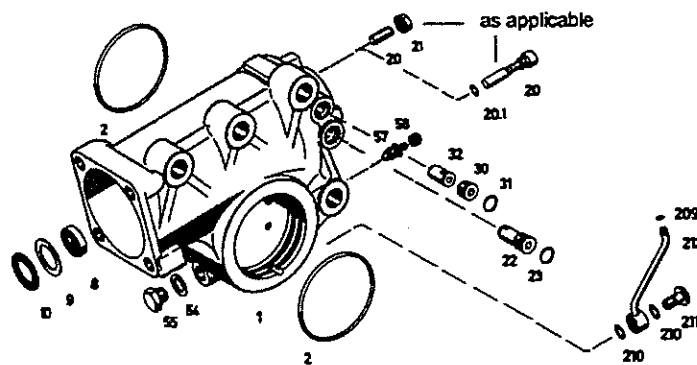

Fig.18
10.1 Remove needle cage (10), washer (9) and shaft seal (8) from housing (1) (*Fig.18*).